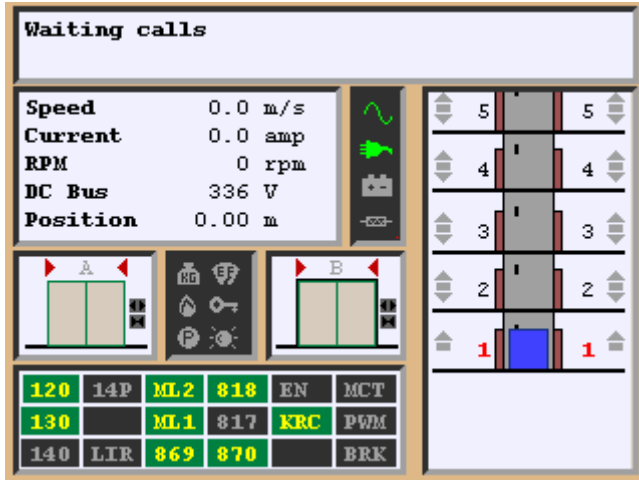

Figure-16: Floor resetting
- Elevator will move bottom floor after completed shaft learning to reset floor numbers. The car will appear on screen as shown figure-16 when car reaches to the bottom floor. The car goes bottom floor to reset floor number every time when ARCODE energized first time.
- Second method is press “info” button when AREM shows main screen (Figure-16).